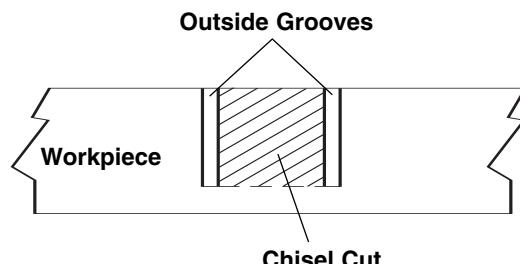

Figure 2. Rough Cut Groove
- Use a wood chisel or make multiple passes by sliding the wood over to one side to remove the material between the outside grooves (Figure 2).